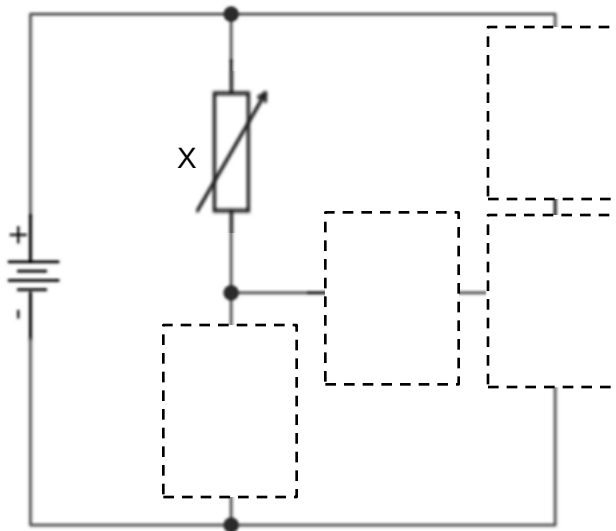

Fig. 4.5
- (ii) Complete the circuit in Fig 4.5, so that the light automatically will turn on when the area turns dark.
State the name and the function of component X in Fig 4.5.